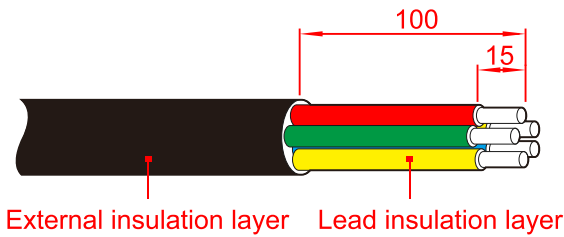

Figure3-23 Strip the AC output wire (unit: mm)
- Step 1 Strip the external insulation layer of AC wire for about 100mm, strip the inner lead insulation layer for about 15mm, as shown in Figure3-23.